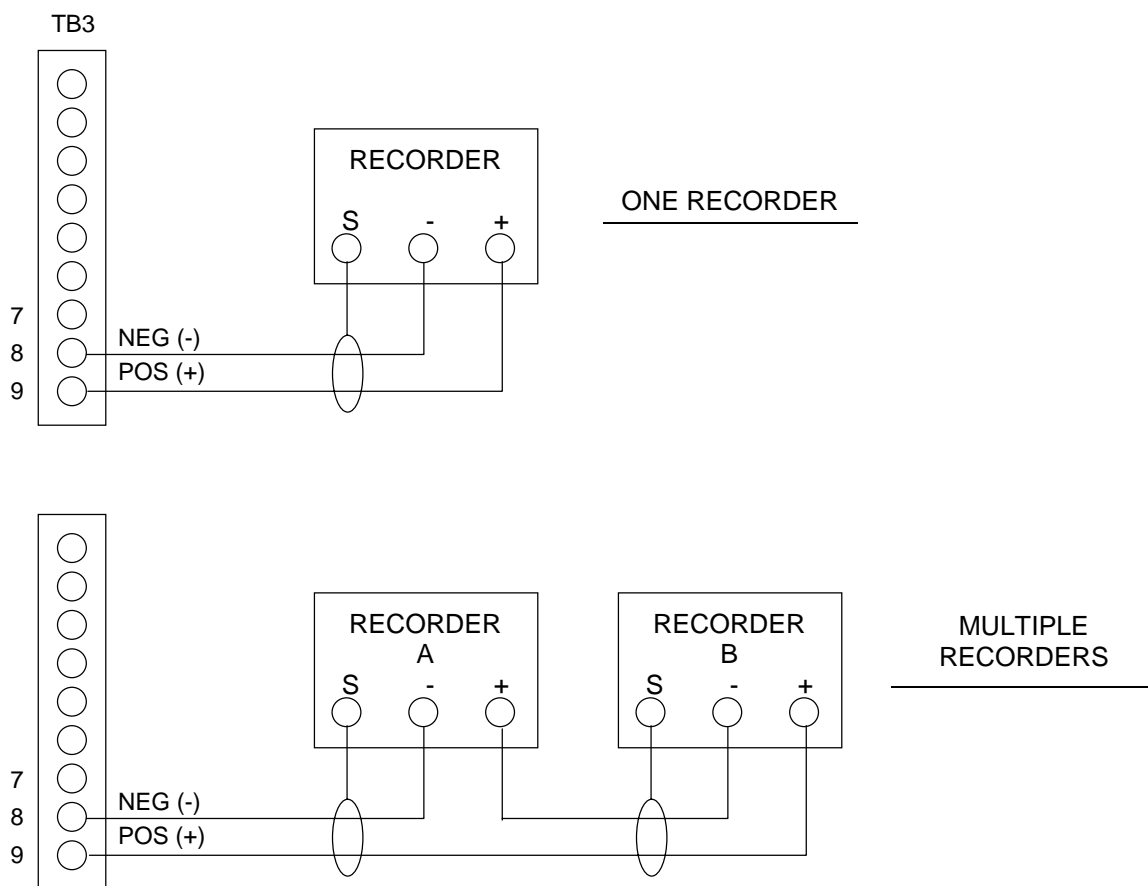

FIGURE 2-4. CURRENT OUTPUT CONNECTIONS
Refer to Figure 2-4. Isolated current output (0 to 20 or 4 to 20 mA) is standard on the Model 7003M. To convert from current output to voltage output, see Section 2.4.4.
5. To connect recorder(s), see Figure 2-4.
Refer to Figure 2-4. To convert the voltage output to current output see Section 2.4.3.
3. Connect resistor (1/4 watt or greater) of value R between TB3-8 and TB3-9 (Figure 2-4).